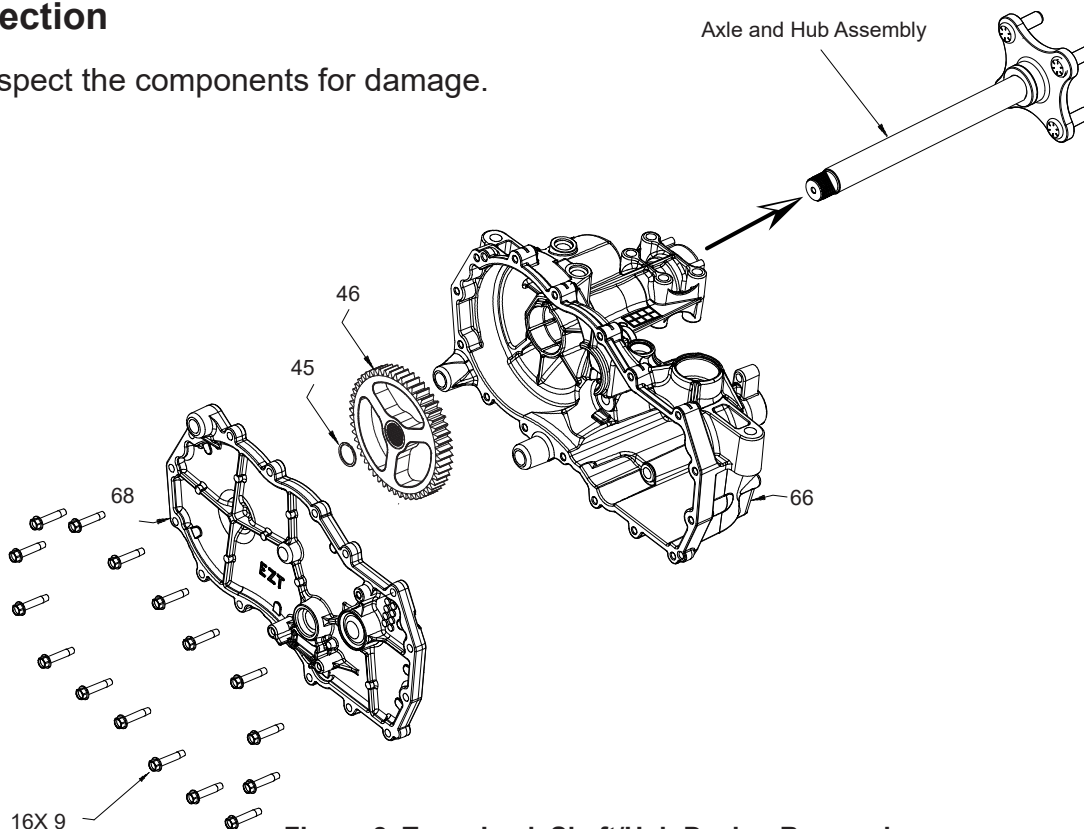

Figure 8. Taper Lock Shaft/Hub Design Removal.
Refer to Figure 8.
2. Remove the side housing screws (9).
3. Remove side housing (68).
4. Remove axle retaining ring (45).
5. Remove bull gear (46).
6. Slide axle shaft and hub assembly out of main housing in the direction of the arrow (Figure 8).